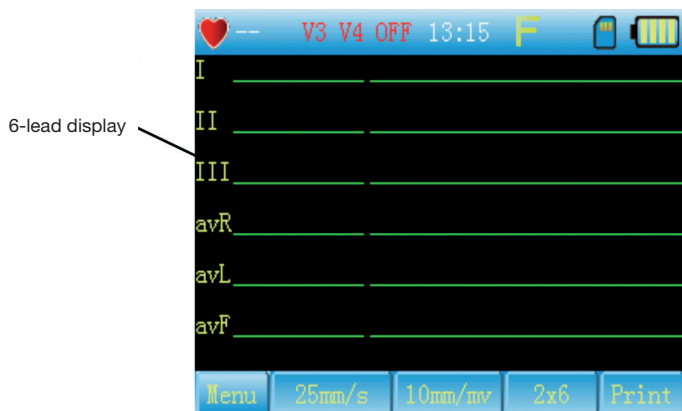

Fig. 13-2-7
- 9 Wave display mode switch: glide left and right in the wave area on the screen or press [confirm] key to switch wave display mode as Fig.13-2, Fig.13-2-7.